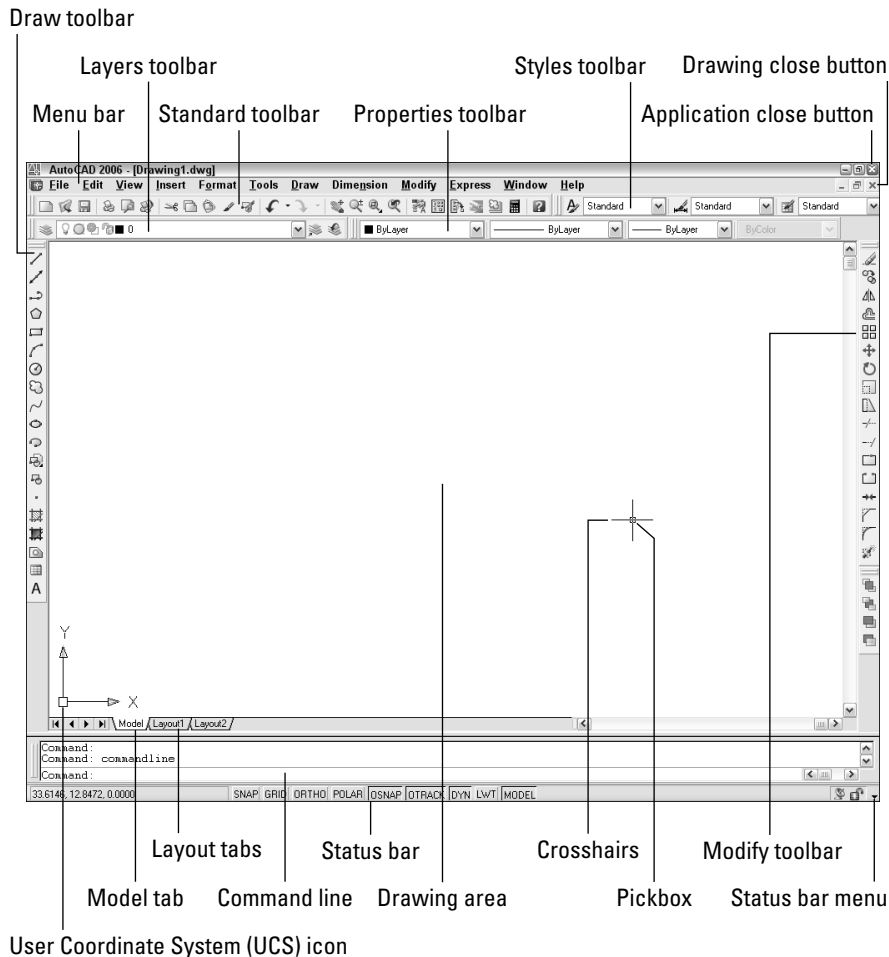

Figure 1-2: The AutoCAD and AutoCAD LT screens are almost identical.
Figure 1-2 shows the screen that appears when you first open AutoCAD or AutoCAD LT. Your screen may look somewhat different — remember that AutoCAD and AutoCAD LT can be customized in many ways — but the general features will be the same.
You may see several other items on your screen, such as the Tool Palettes window, the Sheet Set Manager (AutoCAD only), the Info Palette, the Workspaces toolbar, and so on. If you installed Express Tools (AutoCAD only), you may see some toolbars for these commands. You can close all these items by clicking their Close (X) button. I discuss these tools throughout the book, as they relate to the current topic. Also, your screen is probably black, rather than the white screen you see in Figure 1-2. You can leave it that way or change the drawing area color, as I explain in Appendix A. The AutoCAD LT screen is very similar to the AutoCAD screen.
Notice the symbol with two arrows at the bottom-left corner of the drawing area in Figure 1-2. This symbol is called the User Coordinate System (UCS) icon. The arrows point to the positive directions of the X and Y axes to help you keep your bearings.
In the drawing area of Figure 1-2, notice the two intersecting lines with a small box at their intersection. The small box is called the *pickbox* because it helps you to select, or pick, objects. The lines are called *crosshairs*. They show you the location of the mouse cursor in relation to other objects in your drawing.
At the top of your screen is the title bar, and directly beneath the title bar is a menu bar. Below that are two rows of toolbars. In addition, your screen has two more toolbars, the Draw and Modify toolbars, which are probably docked at the left and right sides of the screen (refer to Figure 1-2). Use the menus and toolbars together to give AutoCAD or AutoCAD LT commands to draw, edit, get information, and so on.
At the very bottom of the screen is the *status bar* (refer to Figure 1-2). At the left are the X,Y coordinates. As you move your mouse, these coordinates change. (If they don't change, click them and move your mouse again.) The status bar also contains several buttons that I explain later in this book.
7.  For your second line, choose Line from the Draw toolbar. (Figure 1-2 labels this toolbar.) Again, pick any point on the screen.